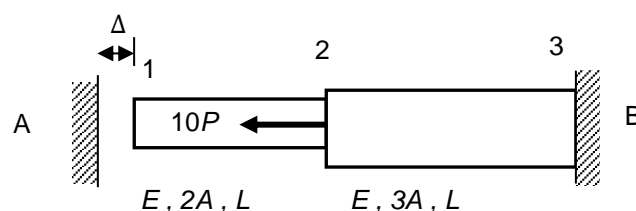

Figure 6b
- (b) Write down the element stiffness matrices and global matrix for the two bars assembly which is loaded with force $10P$ at node 2 as shown in **Figure 6b**. The bar assembly is constrained at end B and free at end A with a gap of Δ at end A. Given the value of $P = 60$ kN, $E = 20$ kN/mm², $L = 200$ mm, $A = 250$ mm² and $\Delta = 1.2$ mm, determine: